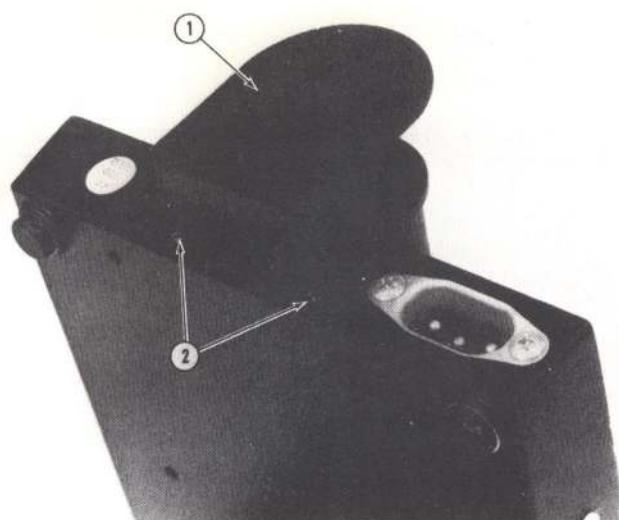

FIG. 7-10 -
- a. On Model 31-32-06 it is necessary to remove the guard before the socket assembly is removed (Fig. 7-10).